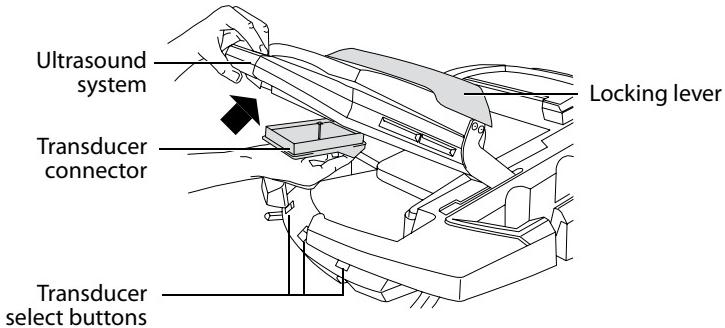

Figure 6 Connect Transducer Connector to System
- Push the transducer select button on the TTC to select the desired transducer. See Figure 6 on page 13.